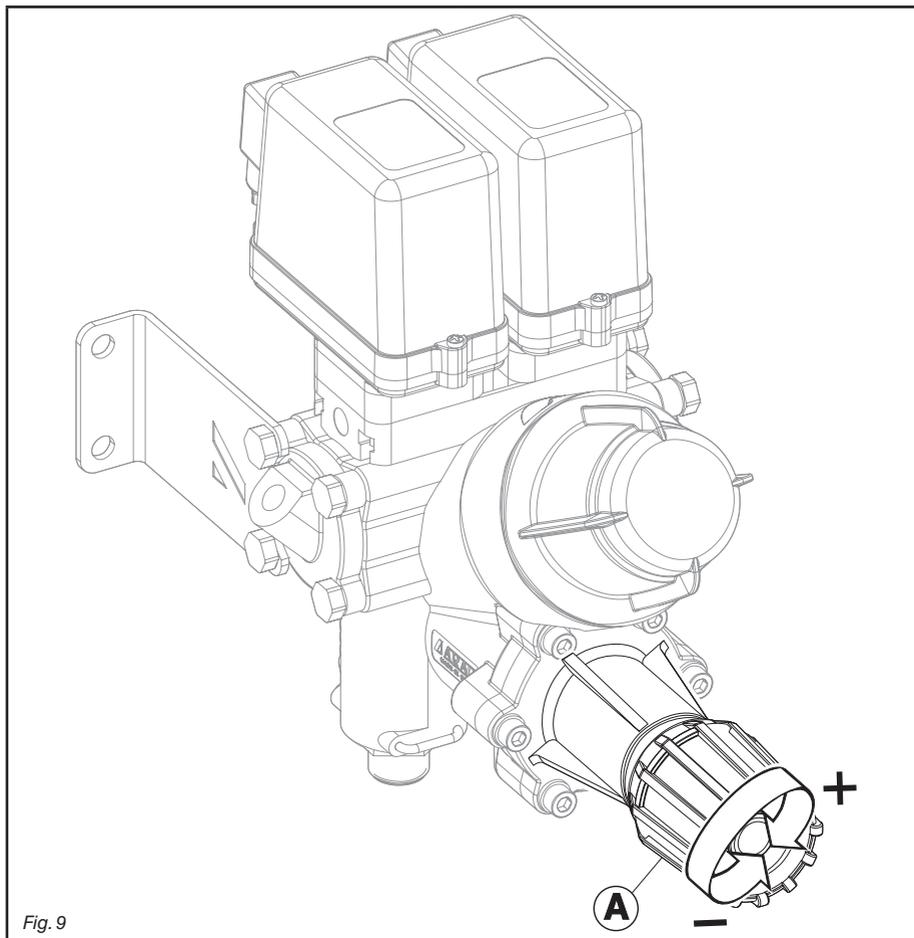

Fig. 9
6.1.1 Constant-pressure dispensing unit (Fig. 9)
This type of unit does not fit any proportional valve, so that adjustment task is fulfilled by the maximum pressure valve (A, Fig. 9); once working pressure is set, the unit flow rate stays unvaried. Therefore, to obtain a constant output per surface unit (liters/hectare or GPA) even the vehicle forward speed shall remain the same.